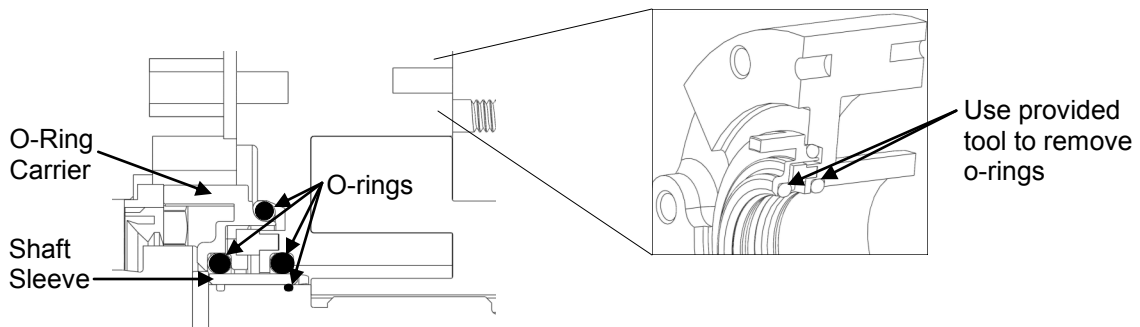

Figure 31: Double O-Ring Seal (Top Shaft)
*Disassembly:* The double o-ring seal consists of two shaft sleeves, two o-ring carriers, and eight o-rings (Figure 31). Remove the o-ring carriers from the back of the pump body and discard the o-rings (Figure 31). Remove the body o-rings using the tool provided by Ampco (discard o-rings). Slide the shaft sleeves off the shafts and inspect for damage. Do not re-use sleeves that are damaged (sleeve surface grooved or scratched). Remove shaft o-rings and discard them.